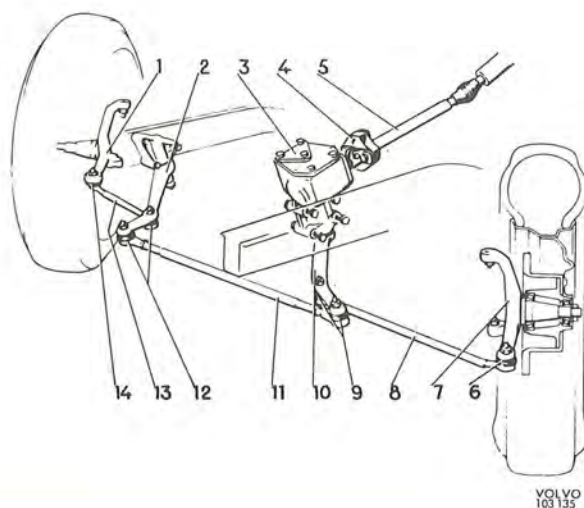
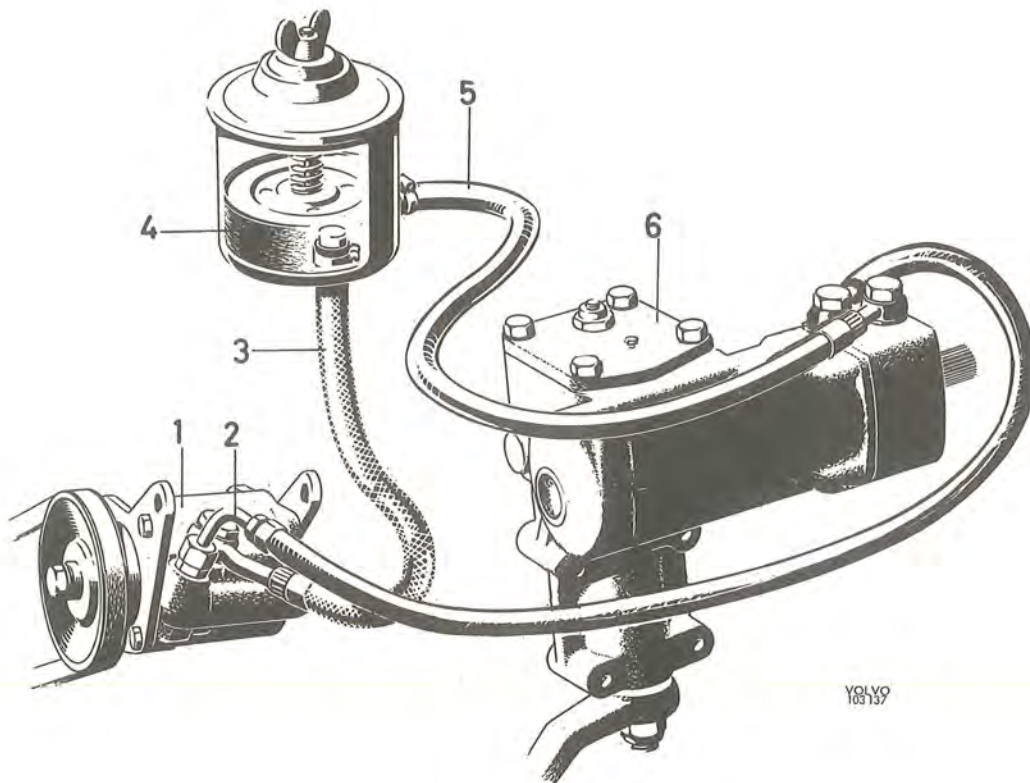
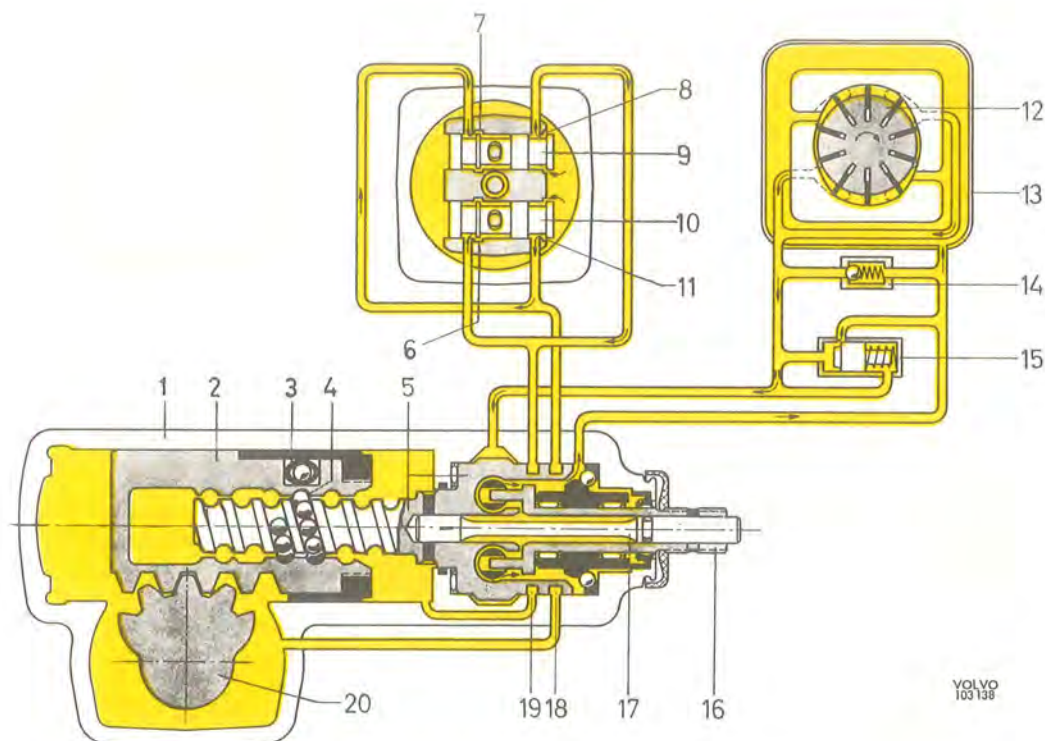

Fig. 6-29. Steering gear components
Fig. 6-32. Servo steering
Fig. 6-33. Function, neutral position
The design of the steering gear is shown in Fig. 6-29. Steering wheel movement is transmitted to the wheels via the steering column (5), steering box (3), pitman arm (10), tie rod (11), steering rods (8 and 13) and steering knuckles (7 and 10).
The upper and lower sections of the steering column (5, Fig. 6-29) are connected by means of a universal joint. The lower section is mounted to the steering
As alternative, this vehicle can be fitted with the ZF recirculating cam and ball nut type servo steering. The main components of the servo system are the steering box, servo pump and oil container with filter. These are connected to the various oil lines, see Fig. 6-32. From the pitman arm the servo steering system is similar to the mechanical steering arrangement, see Fig. 6-29.
The steering gear is of the cam and roller type. In addition to the mechanical section, the servo cylinder and control valves are built into the steering box. The lower part of the steering box (1, Fig. 6-33) is in the shape of a cylinder in which the piston (2) is fitted.
The construction of the steering gear differs with regard to a left-hand steered and a right-hand steered vehicle in the matter of the location of the lever shaft and the steering cam thread. Fig. 6-32 shows the steering gear for left-hand steering while Figs. 6-33 and 6-35 show that for right-hand steering. The following description of the function applies to both.
The location of the steering valves as well as that of the oil flow are shown schematically in Figs. 6-33, 6-34 and 6-35. In order to illustrate more clearly how
Oil is conveyed under pressure from the pump into an annular chamber round the valve housing (the large circle in the cross-section). In the neutral position (Fig. 6-33) the valves (9 and 10) are so adjusted that oil can pass the intake ports (8 and 11) and flow on to the annular grooves (18 and 19) in the valve housing. From here the oil is led partly to both sides of the piston (2) through the channels (18 and 19), and partly — as long as the valves are in the neutral position — to both the return grooves (6 and 7) at the control valves. From the return grooves oil flows through the return channel back to the container.